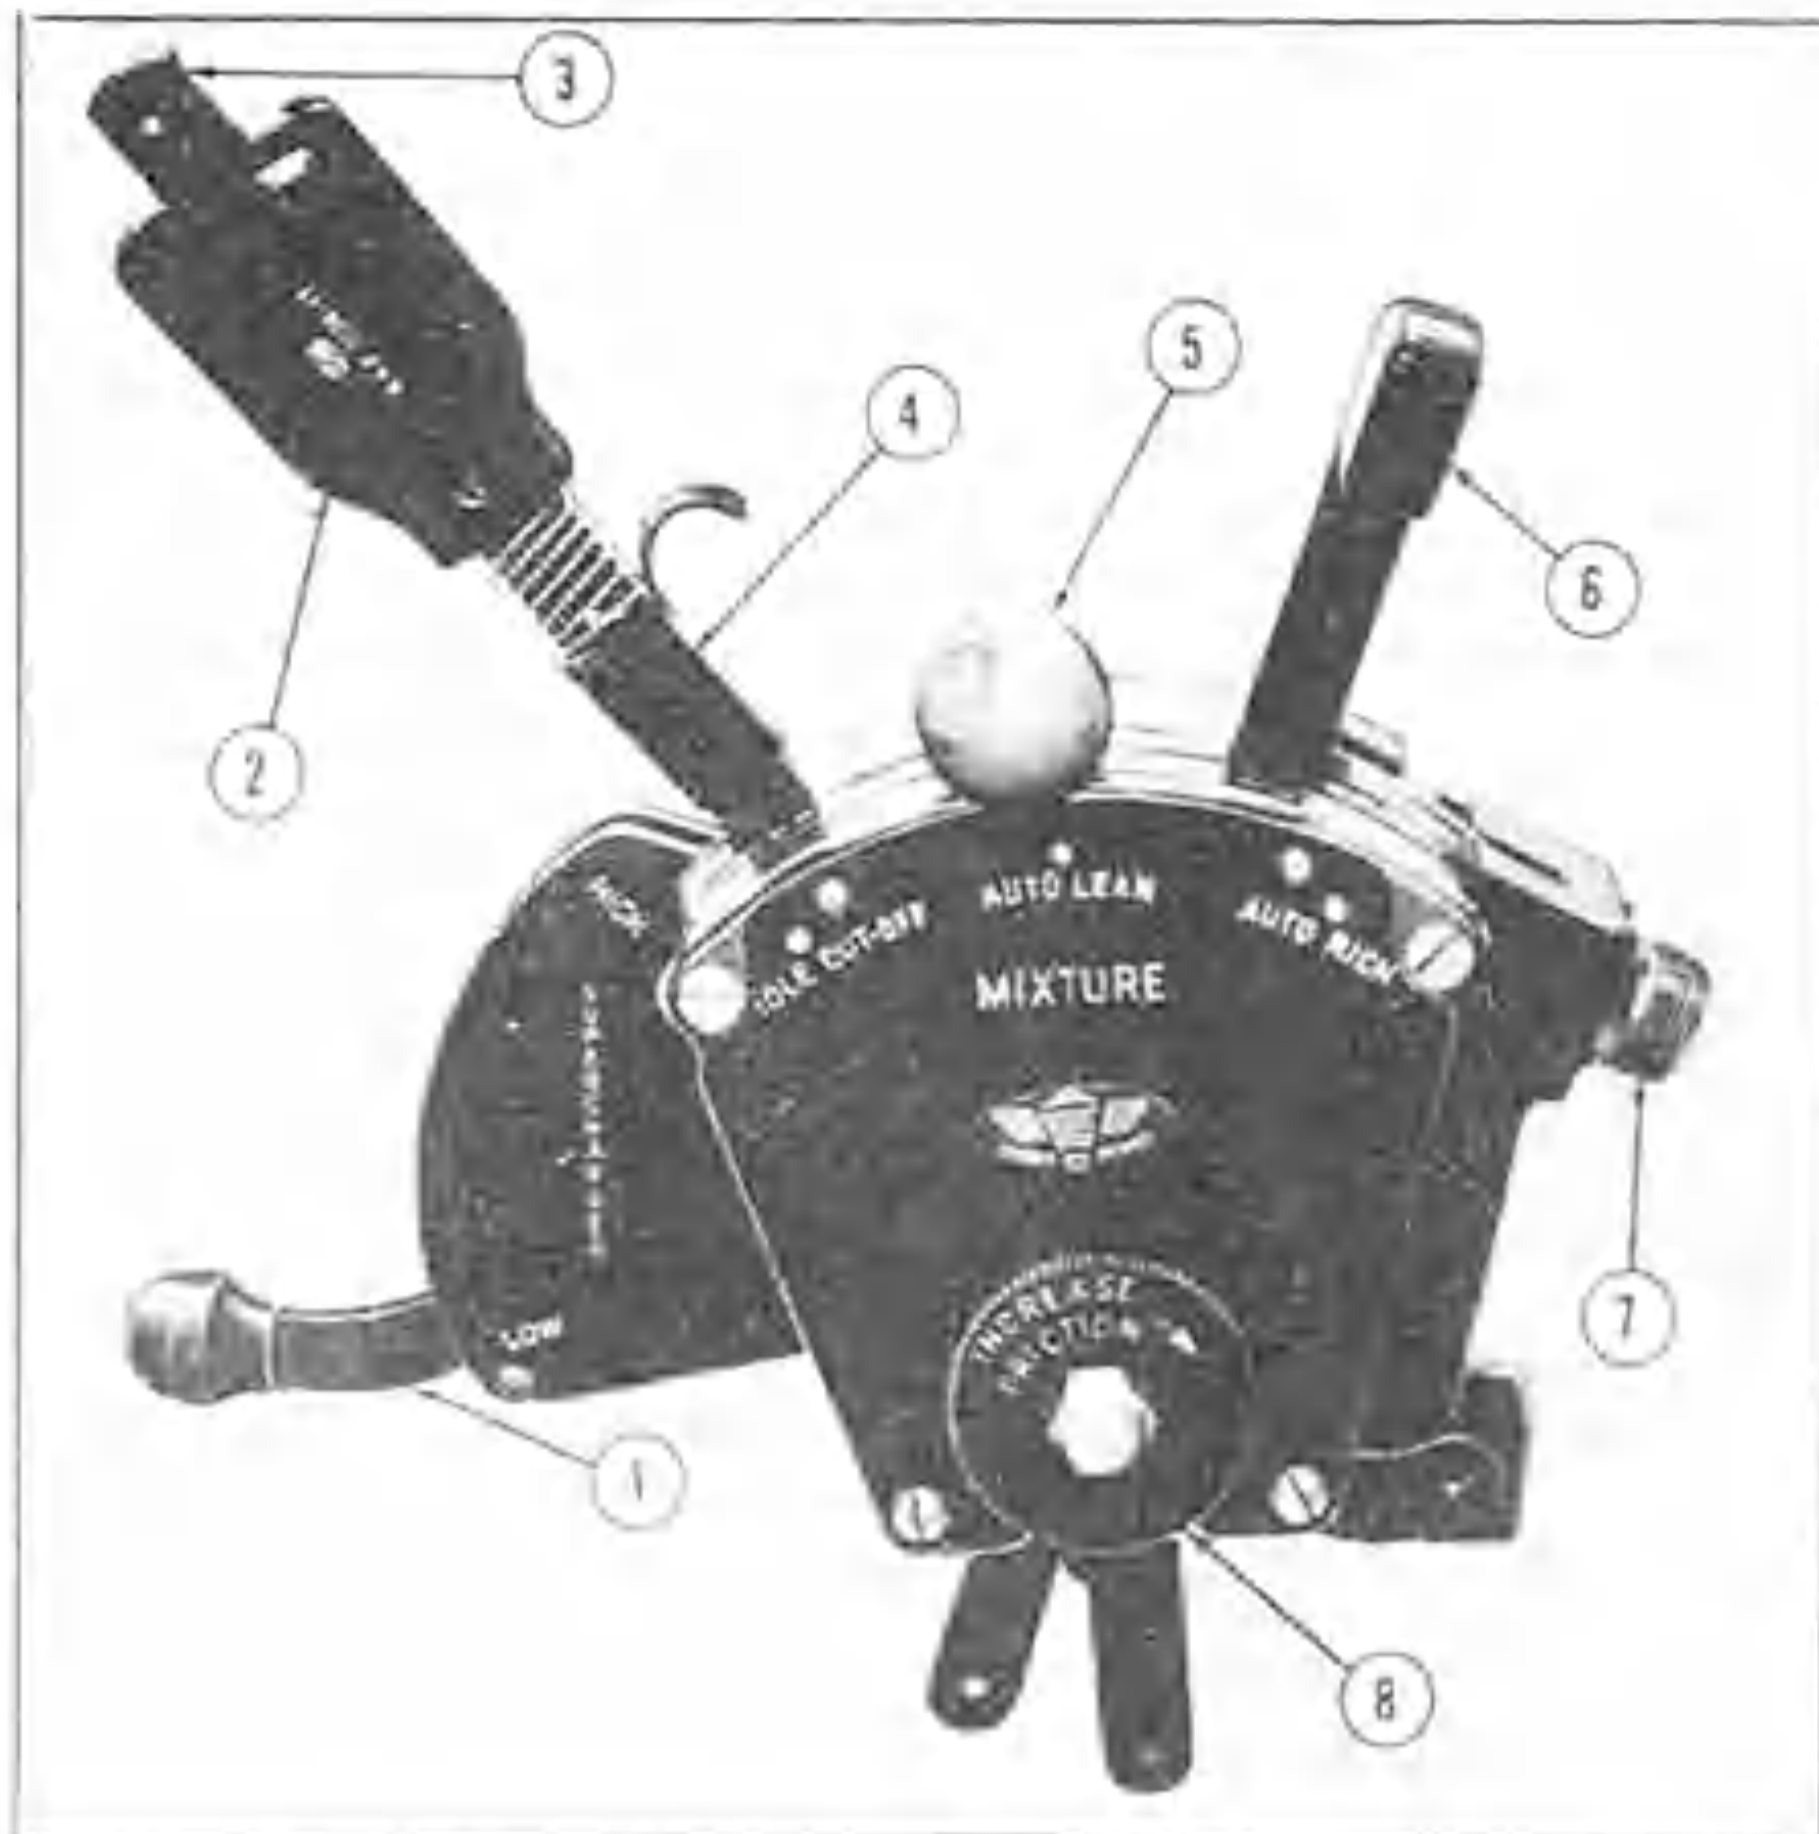

Figure 5 — Power Plant Control Quadrant
Two different systems of supercharger control are used in the F2G airplanes. These systems are interchangeable. In one type of control system the pilot regulates blower speed manually. In this case the supercharger control lever on the control quadrant (see 1, figure 5) regulates the flow of oil to the supercharger hydraulic couplings and so regulates impeller ratios. With the control lever at its lowest point the impeller is running at low ratio; as the lever is started upward out of its low position the blower is shifted from low ratio to high ratio, but at this point slippage in the high ratio coupling is at a maximum and permits only a slight increase in blower speed. As the control lever is raised further, the degree of slippage in the coupling is reduced until, with the lever at the top of its travel, coupling slippage is at a minimum and blower speed closely approaches the 7.5:1 maximum ratio.
(1) CONTROL QUADRANT. (See figure 5.) — The power plant control quadrant at the pilot's left mounts the throttle lever, mixture control, propeller governor control, and supercharger control. A friction knob on the inboard face of the quadrant controls the freedom of movement of the supercharger, propeller, and throttle controls. This knob does not affect the mixture control lever.